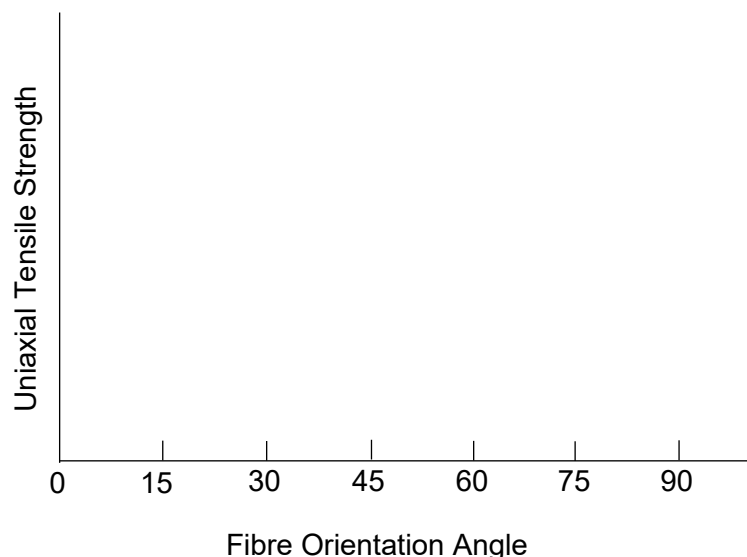

Figure B2
- a) Describe what fundamental composite material characteristic is included in the Tsai-Hill failure criterion compared to the maximum stress failure criterion. Illustrate this difference by sketching the failure envelopes of the two criteria for the unidirectional, off-axis tensile test. Copy Figure B2 below into the answer booklet and add the failure envelopes. (2 marks)